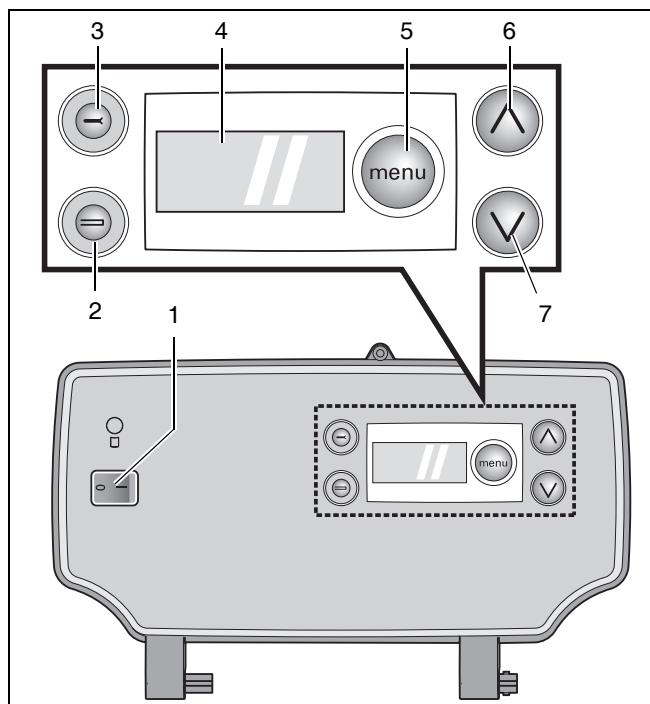

fig. 1 DBA
1. Mains switch (see fig. 1)
2. Reset button "B" (see fig. 1)
3. Service Button "A" (see fig. 1)
4. Display (see fig. 1)
5. Menu button "E" (see fig. 1)
6. and 7. Up "C" and Down "D" keys (see fig. 1)